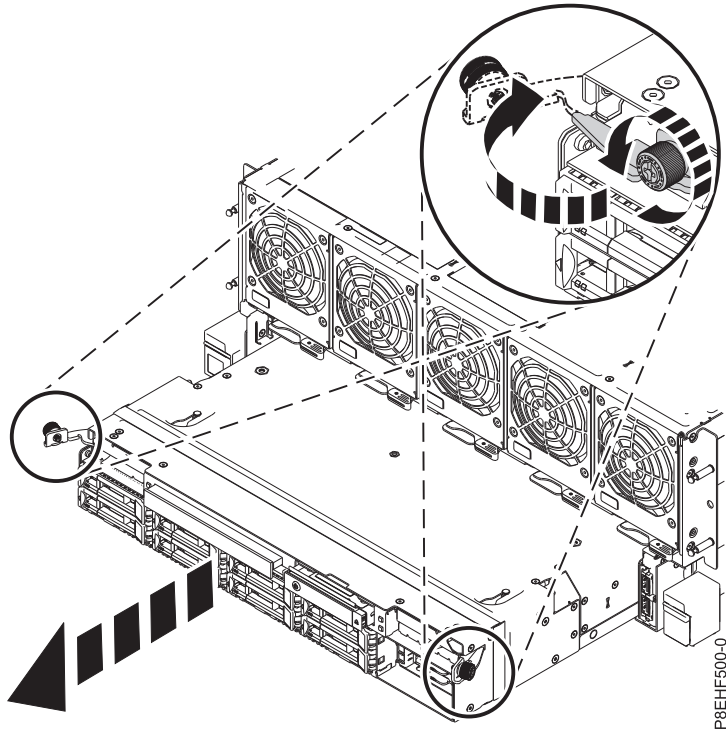

Figure 3. Removing the RAID assembly from the system
3. Turn the thumbscrews in the direction shown. Pull out the latches and remove the RAID assembly from the system, as shown in Figure 3 on page 5.